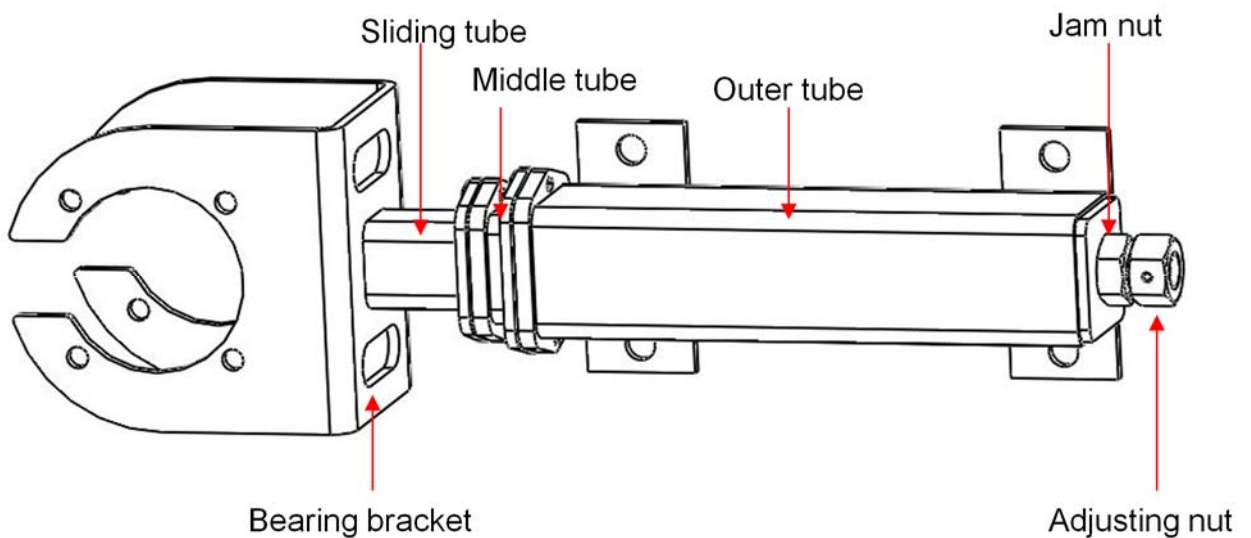

Figure 36: Tensioner nomenclature
1. Refer to Fig 36 below for nomenclature.